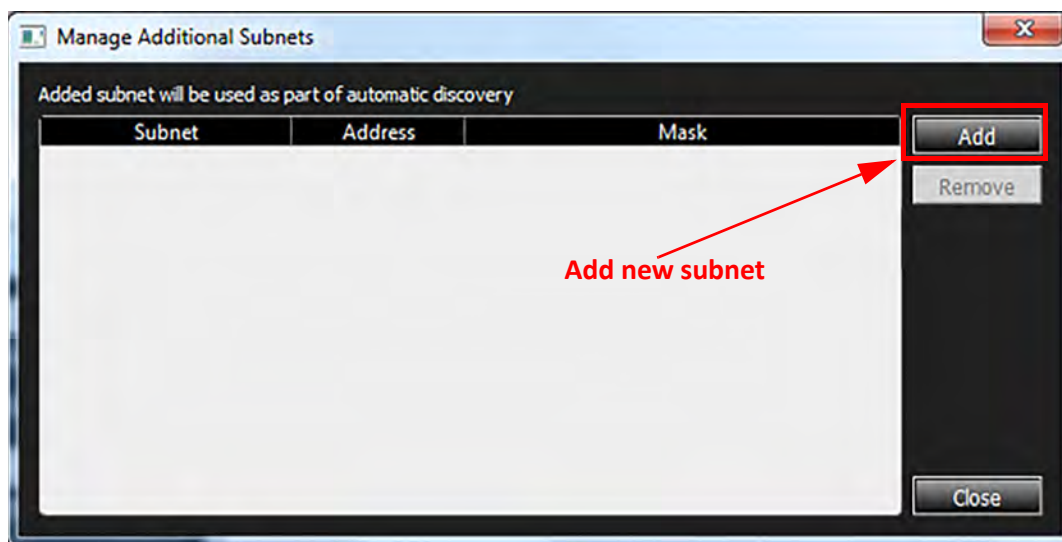

Figure 2.69: Manage Additional Subnets Dialog
- The *Manage Additional Subnets* window appears (Figure 2.69), which shows the existing subnets and allows you to add or remove them.